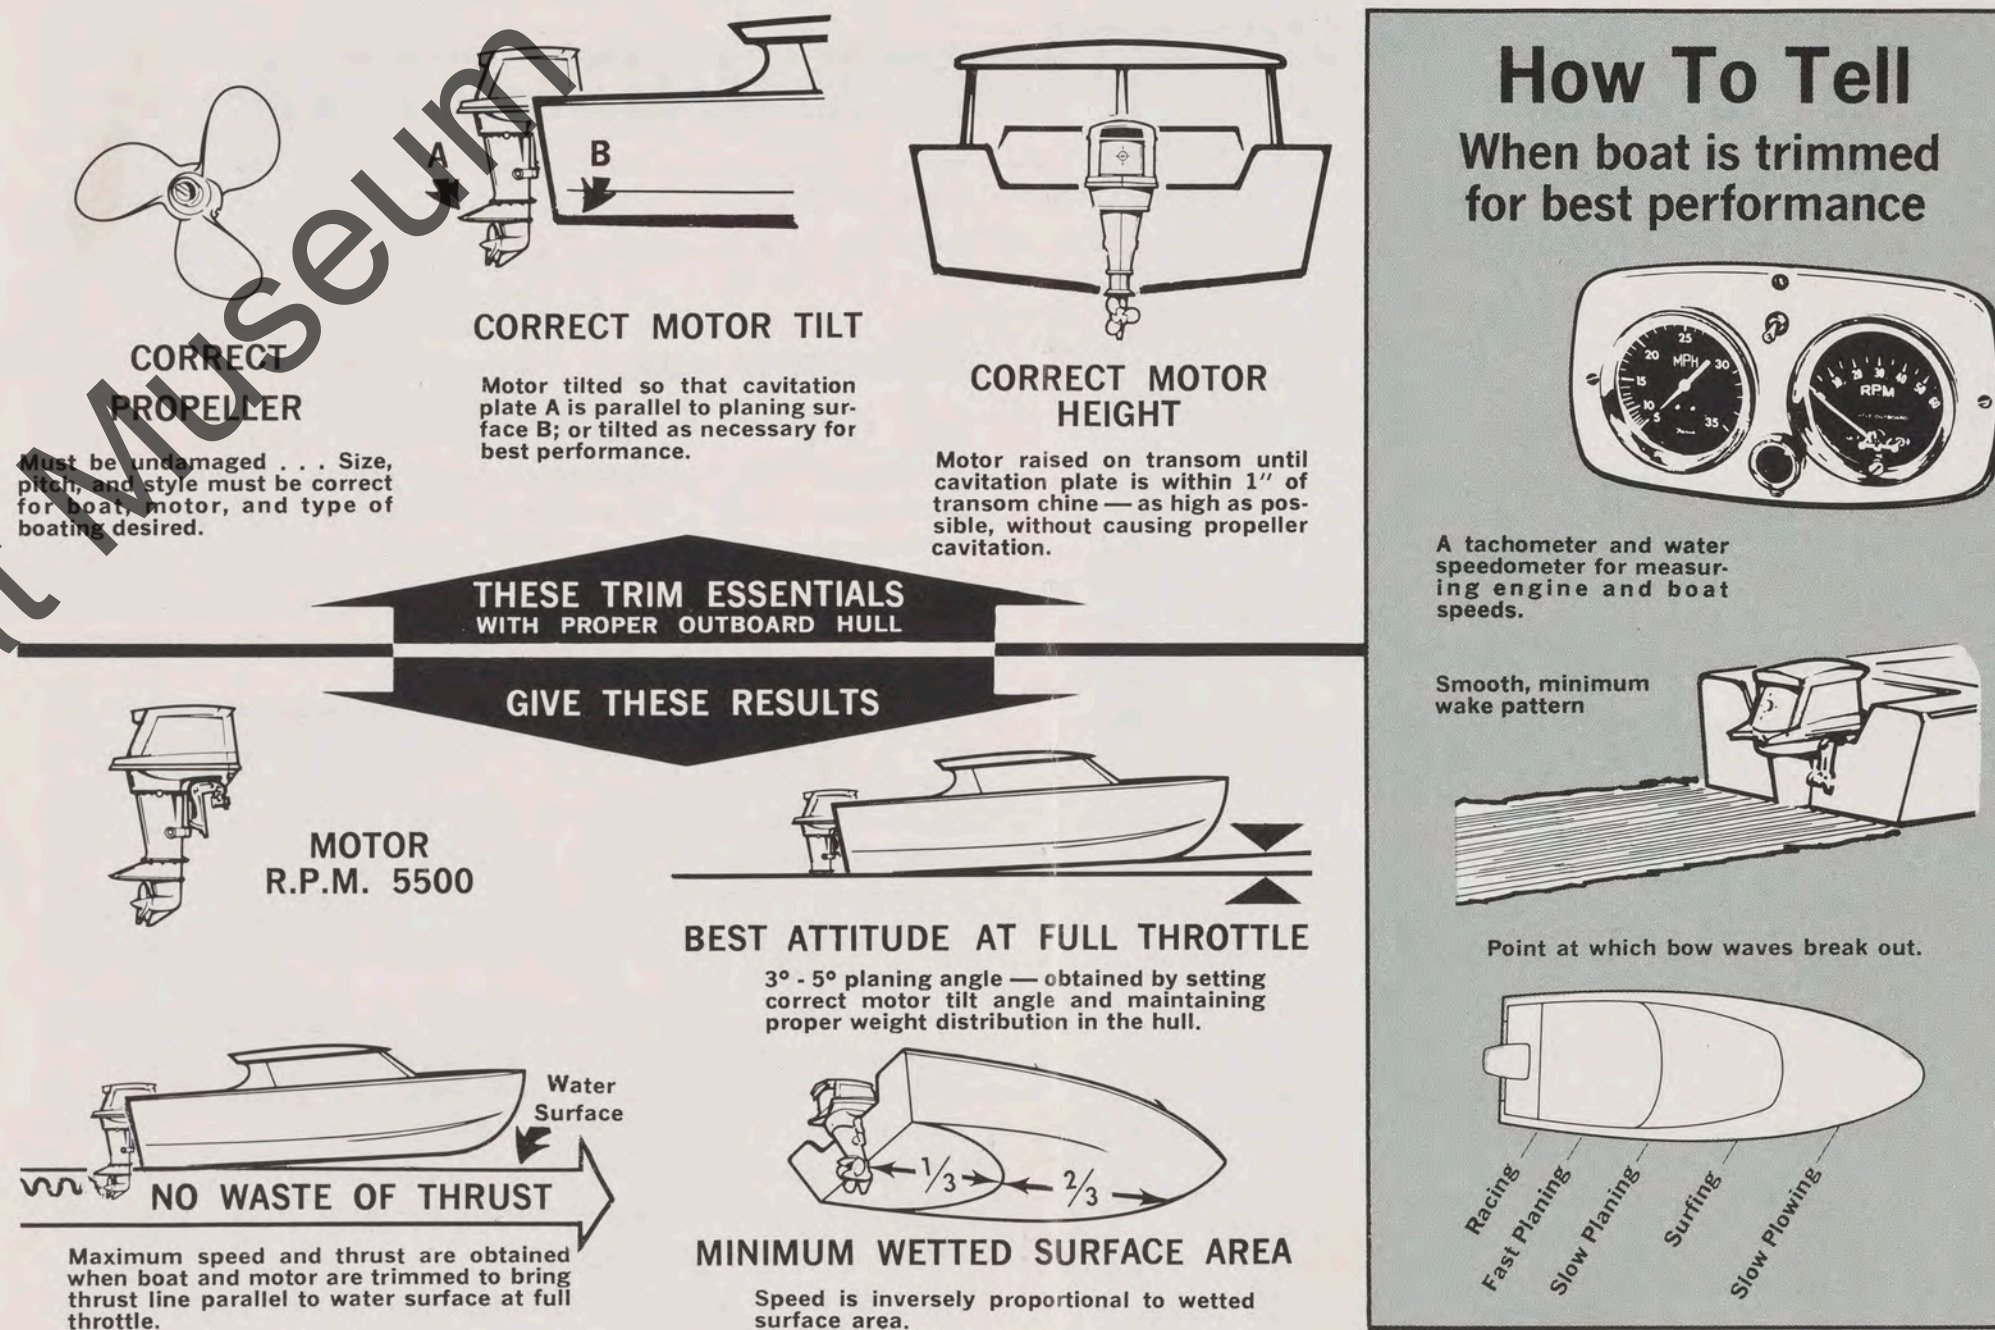

FIGURE 19
1. Propeller operating too close to the surface of the water due to incorrect transom heights or tilt angle. (See figures 19 and 20.)